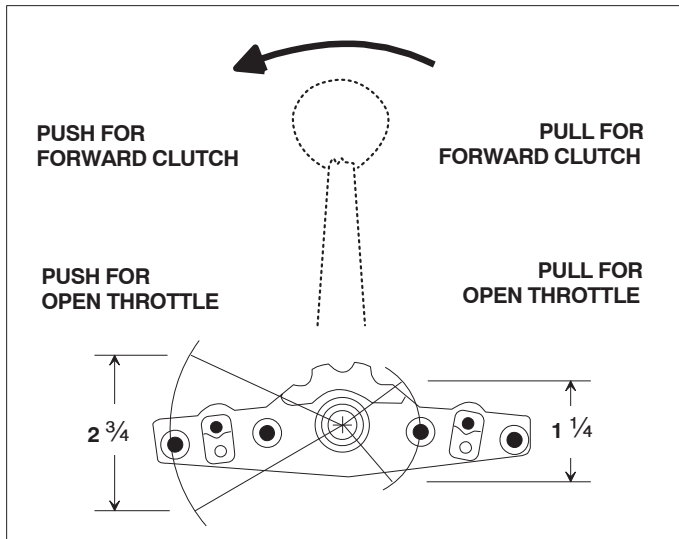

FIGURE 3
Cable will be installed in control using outer hole (2 -3/4" travel) of control arm in either the push or pull mode as required. Push is toward bow and pull is toward stern of boat. (See Figure 3.)
1. Determine whether push or pull cable action is required. Refer to Figure 3 on page 3.